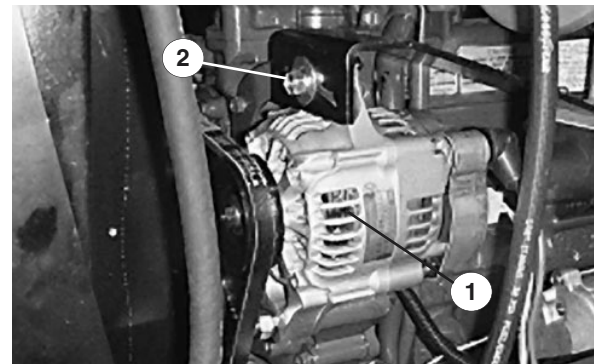

Figure 29
1. Condition and Tension—Check the condition and tension of the belts (Fig. 29) after every 100 operating hours.
3. Unplug the clutch's electric connector (Fig. 29).